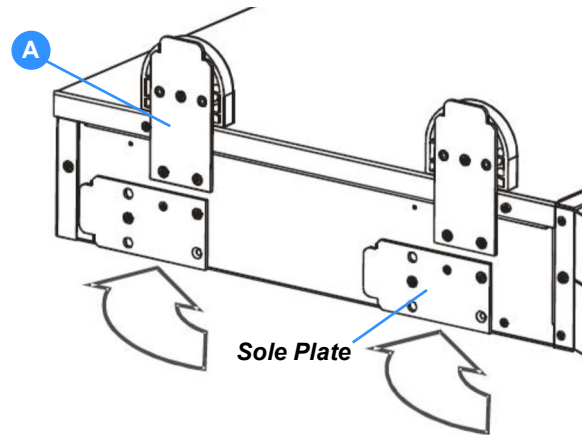

Figure 3.4 Tower assembly
1. Turn the UPS on its side and, using screws (H) provided, attach four tower feet (A) to the base of the enclosure.
- a) If the UPS enclosure is being installed as an entirely stand-alone unit, attach all four feet so that they protrude from the base of the unit, as shown in the top part of Figure 3.4.
1. Attach the feet on the UPS tower enclosure as shown in Figure 3.4.
4. Fit the two link bars (B) between the two cabinets, at the top and bottom, using the supplied dome-headed screws (I). Ensure that the front of the cabinets are correctly aligned before you fully tighten the screws.